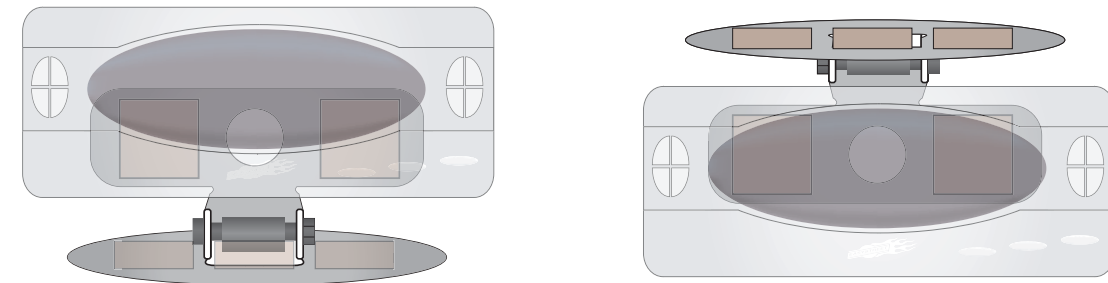

Figure 10
NOTE: The display panel can be mounted by either placing the bracket on top of something or by attaching the bracket to hang below something (Figure 10).
2. Cut the velcro into 1" squares and attach two "hook" pieces of the velcro to the mounting bracket and attach the two corresponding "loop" pieces of the velcro to the back of the display panel (Figure 10).
4. Attach the mounting bracket to its mounting location in the same manner. Place three "hook" pieces of the velcro onto the bracket and place three "loop" pieces of the velcro onto the chosen mounting location (Figure 10).